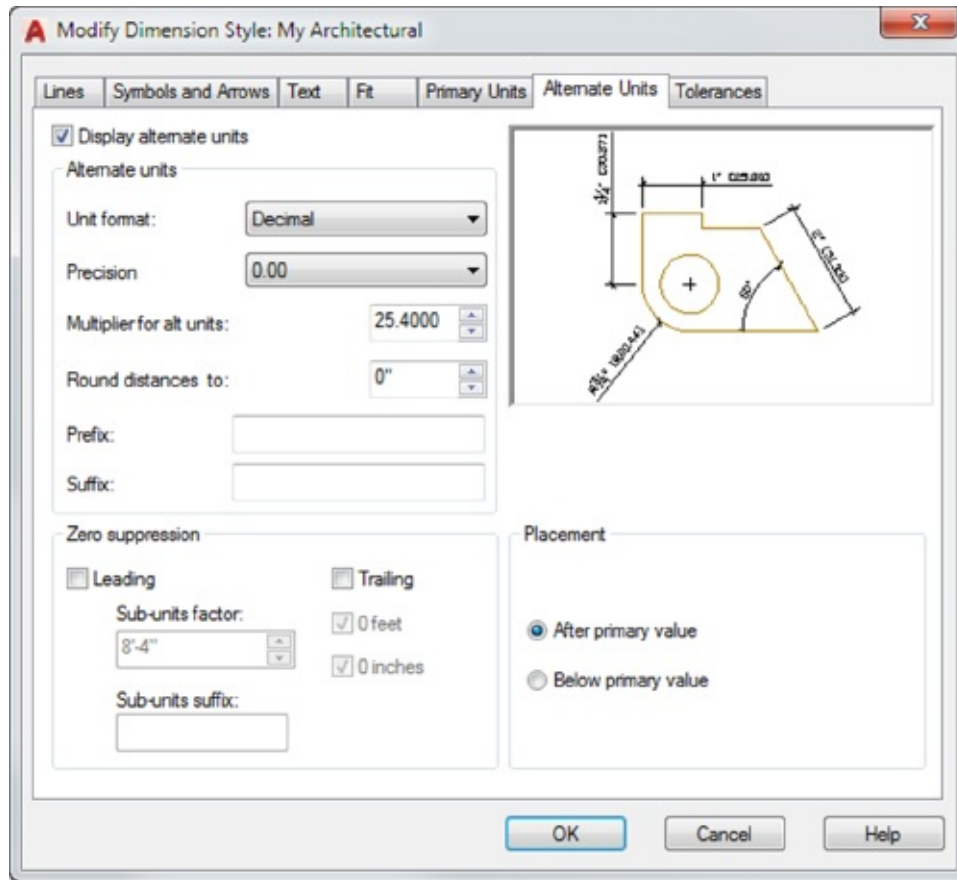

FIGURE 11.11 The Alternate Units options
2. In the Modify Dimension Style dialog box, click the Alternate Units tab (see Figure 11.11). This is virtually identical to the New Dimension Style dialog box with which you’ve been working.